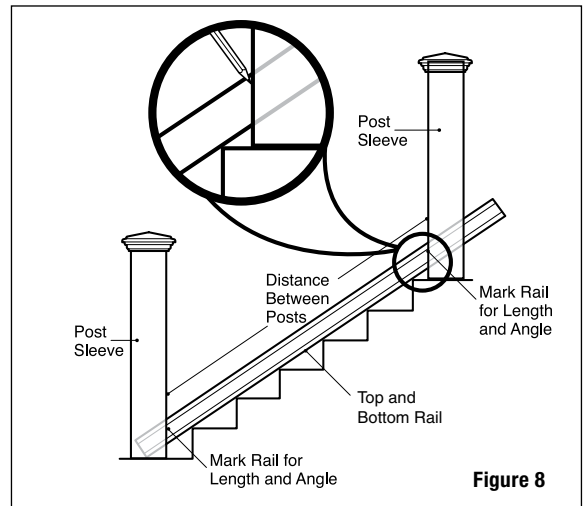

Figure 8
**Step 4** Measure the distance between installed post sleeves to determine the length of the top and bottom rails. Lay bottom rail on stairs with the pre-drilled holes facing down. The distance between the post and first baluster should be less than 4" and equal on both ends. Mark the angle and length. Do the same with the top rail. Remove an additional 1/4" on both ends (1/2" overall) for the bracket to fit between the rail and post. Trim the top and bottom rails to length with the same angle (fig. 8).